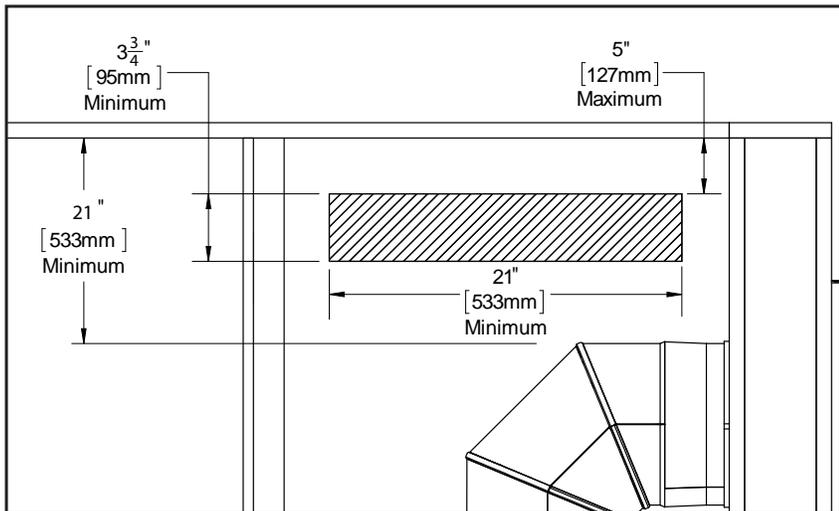
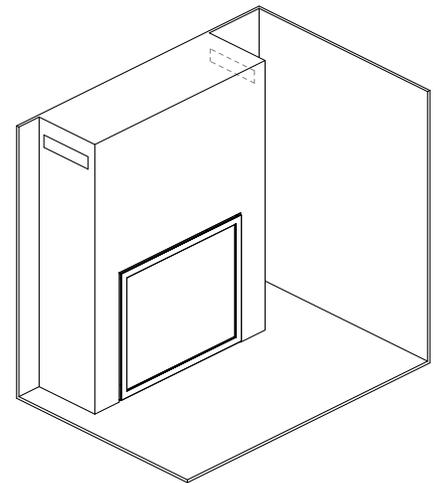

Figure 48: Side Discharge
Figure 49: Side Discharge Iso View
**Option 4: Side Discharge** - Construct the framing in a way that provides two gaps, one on each side of the chase as shown in Figure 48 & Figure 49. Each gap should be a minimum of 21 inch (533mm) by 3 3/4 inch (95mm). It is essential that these dimensions are followed and not to deviated from them when using combustibile materials inside the chase.